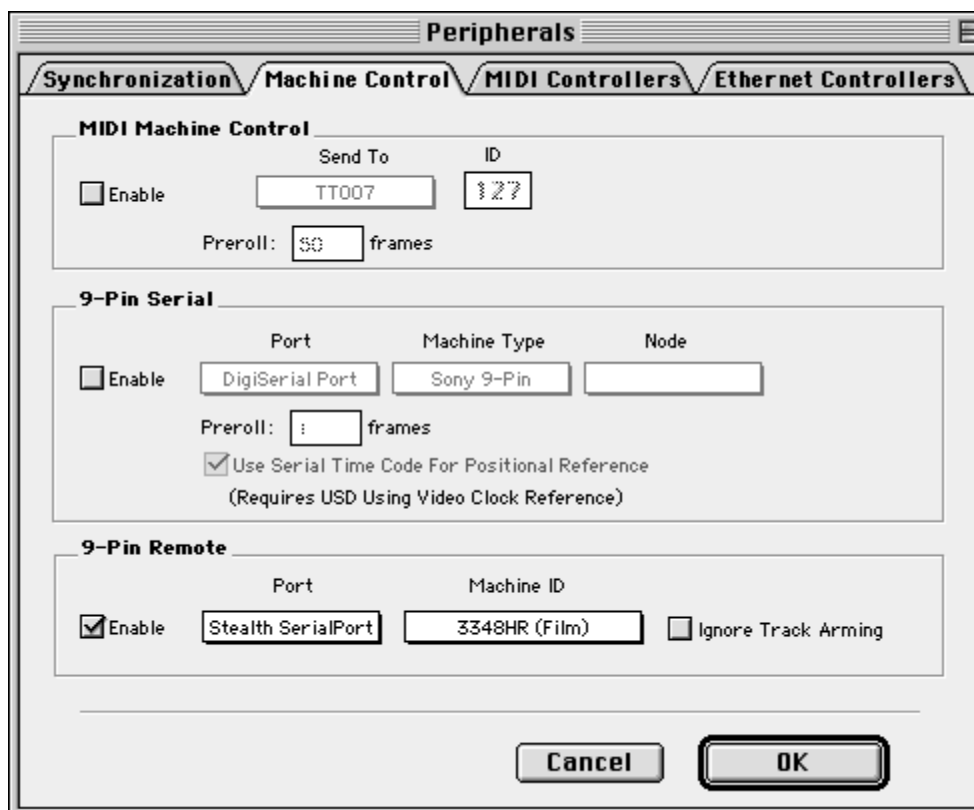

Figure A-10 Machine Control tab in the Pro Tools Peripherals dialog
1. Set the Machine Control tab in the Peripherals dialog as shown in Figure A-10.